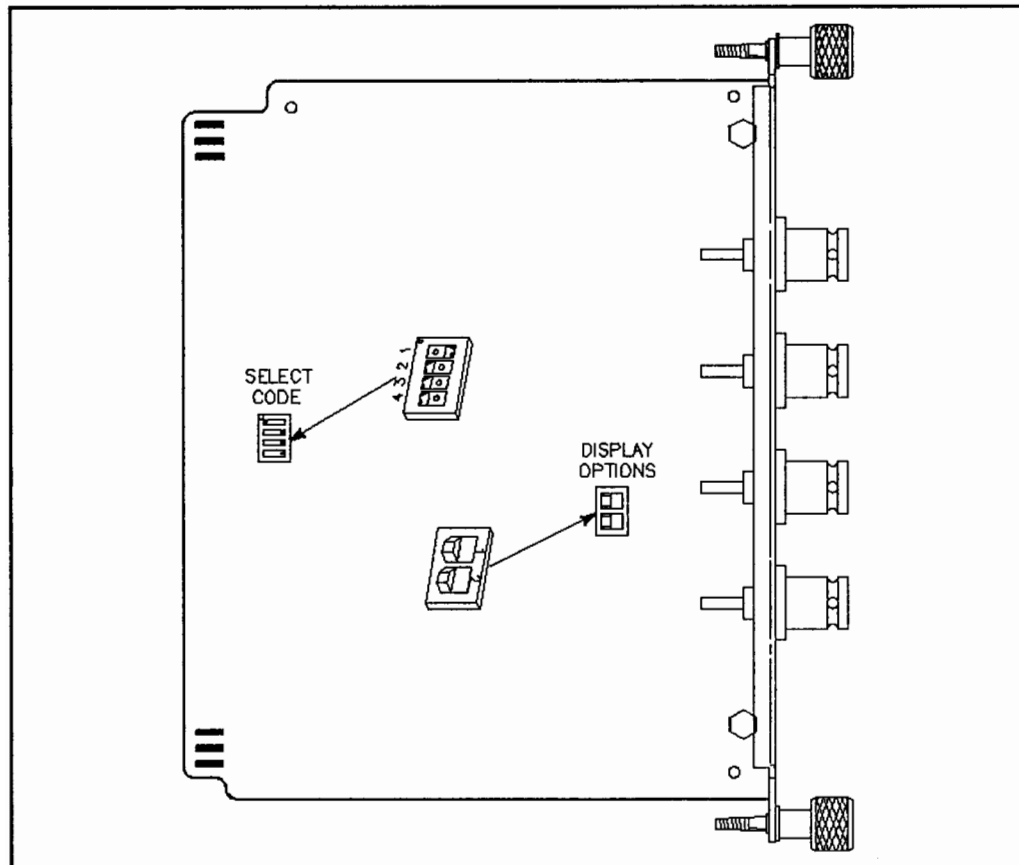

Figure 4-58.
- a. Find the set of four select code switches illustrated in Figure 4-58.
- If connecting an HP 13279B Color Monitor to this interface, set display option switch 1 for combined green and sync signal as shown in Figure 4-58.
- If connecting some other monitor, set display option switch 1 *opposite* of that shown in Figure 4-58 if the monitor provides for a separate sync signal; otherwise set the interface to a combined green and sync signal by setting display option switch 1 as shown in Figure 4-58.
- If connecting an HP 13279B Color Monitor to this interface, set option switch 2 to 24.8 kHz horizontal scan as shown in Figure 4-58.
- If connecting some other monitor, set option switch 2 *opposite* of that shown in Figure 4-58 if the monitor has a 15.75 kHz horizontal scan; set option switch 2 as shown in Figure 4-58 if the monitor has a 24.8 kHz scan.